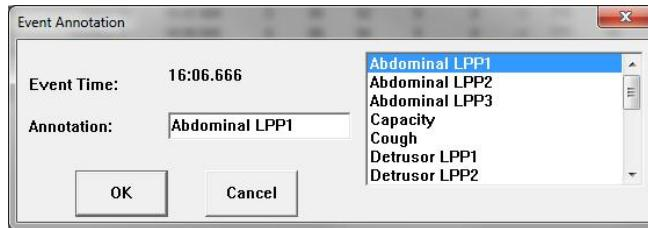

Figure 107: Event Annotation Window
1. Click on an event and click the **Annotate!** button. The Event Annotation window will load (Figure 107).